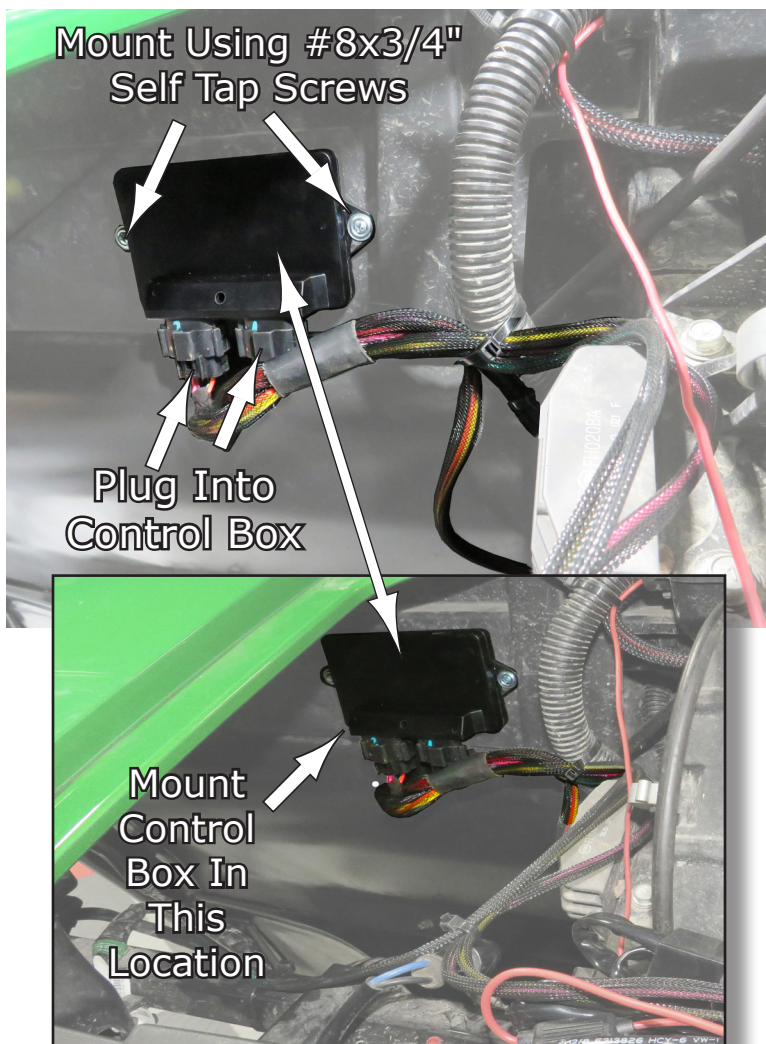

Fig.5
6. Next you will mount the Control Box onto the firewall using (2) #8x3/4" Self Tapping Screws provided in your kit. Mount in the general area or location shown, and plug in the (2) connectors from your new cable harness. See **Fig.5**.